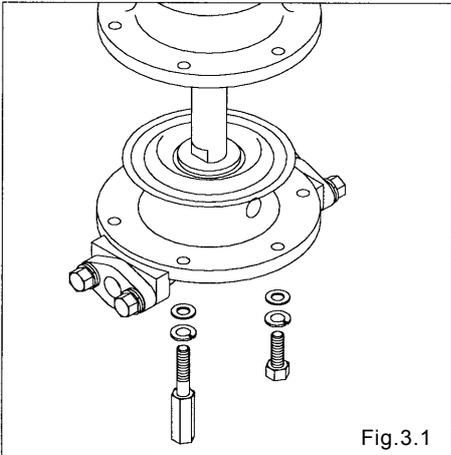

Fig.3.1
- Remove 6 out-chamber mounting bolts and studs respectively, and remove the out-chamber. (AD-10, AD-25) [Fig.3.1]
- Remove the 8 out-chamber locking bolts, studs and nuts respectively, and remove the out-chamber. (AD-40, AD-50) [Fig.3.1]